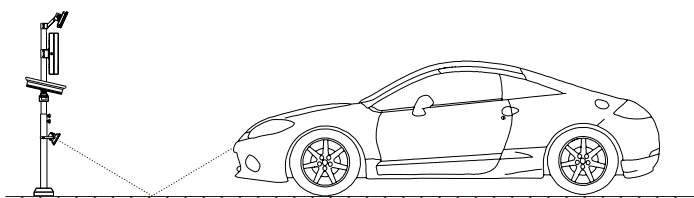

Figure 7
Step 7: Place the sponge mats on column 2, then install the fill light. Adjust the angle as shown in figure 7.